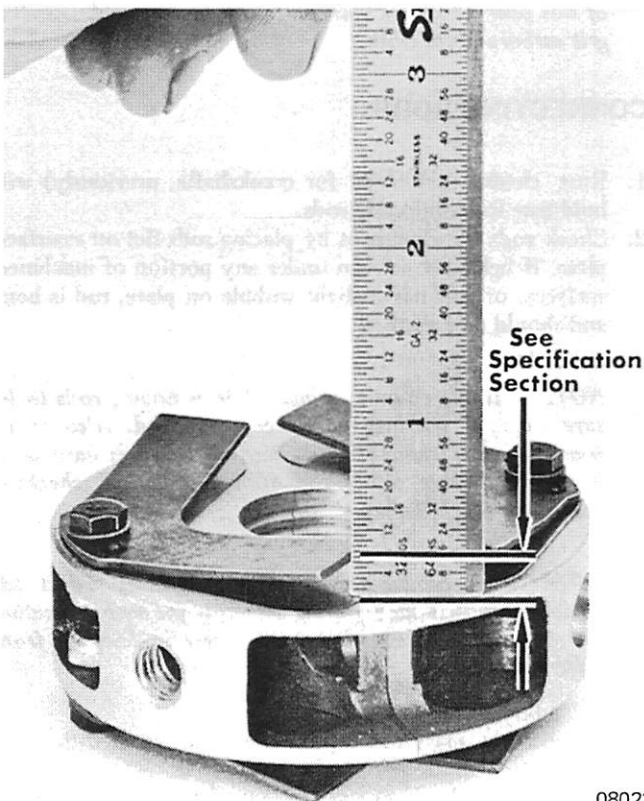

Figure 4. Reed Valve Stop Setting
4. Refer to "Specifications" Section 8 and set reed stop openings. (Figure 4)